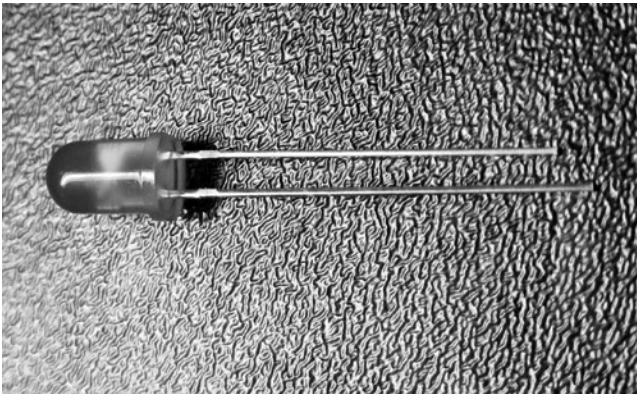

Figure B-9. A single LED – the longer of the two wires is the positive lead
2. Then, I connected an LED and a series resistor (which, as we previously saw in Appendix A) is needed to prevent the LED from drawing too much current from the chip) to pin 3, the output of the first gate in the package. The LED was just a standard 8 mm red LED, such as the kind you can buy from your electronics supplier (see picture of Figure B-9). The resistor was a 330 ohm 0.25 watt resistor, which again should be easy to get from any electronics outlet.